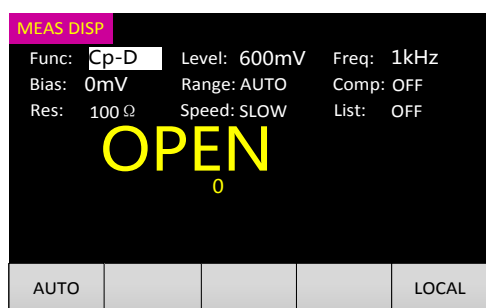
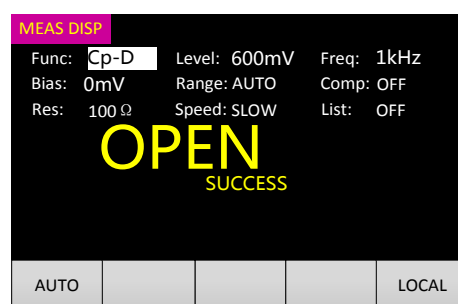

Fig.4-18
Fig.4-19
Step 2: Press the  key to carry out open or short circuit correction (automatic identification of open circuit, short circuit, open circuit OPEN, short circuit SHORT) with the interface as shown in Fig.4-18 (the number will be added 1 along with the correction progress,). If the correction is successful, the word "success" is displayed in the position where "Digital" is displayed. If it fails, "FAIL" will be displayed as shown in Fig.4-19; press the  key again to return to Interface of Measurement Display.